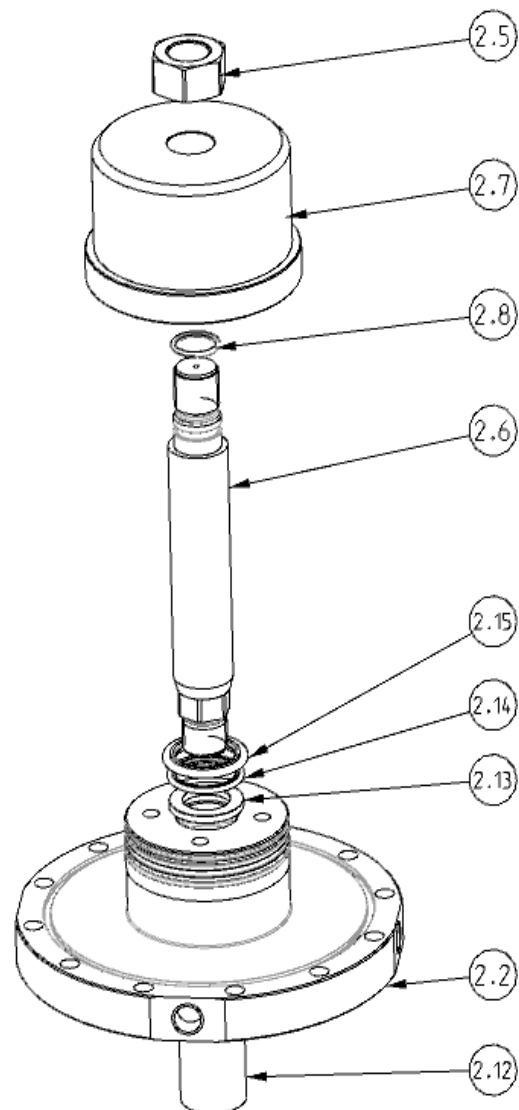

Fig. 6.3
3) *Rod seals replacement* (fig. 6.3)